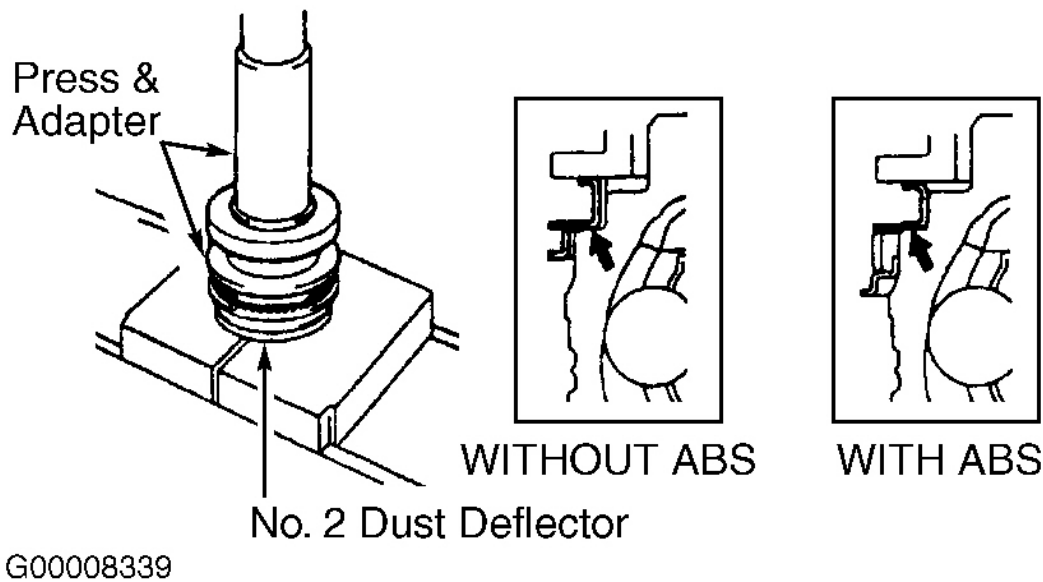

Fig. 4: Installing No. 2 Dust Deflector On Rear Drive Axle
1. Use press and adapters to install NEW No. 2 dust deflector. See **Fig. 4** . Wrap tape around spline of drive axle. Temporarily install NEW outboard and inboard joint boots.